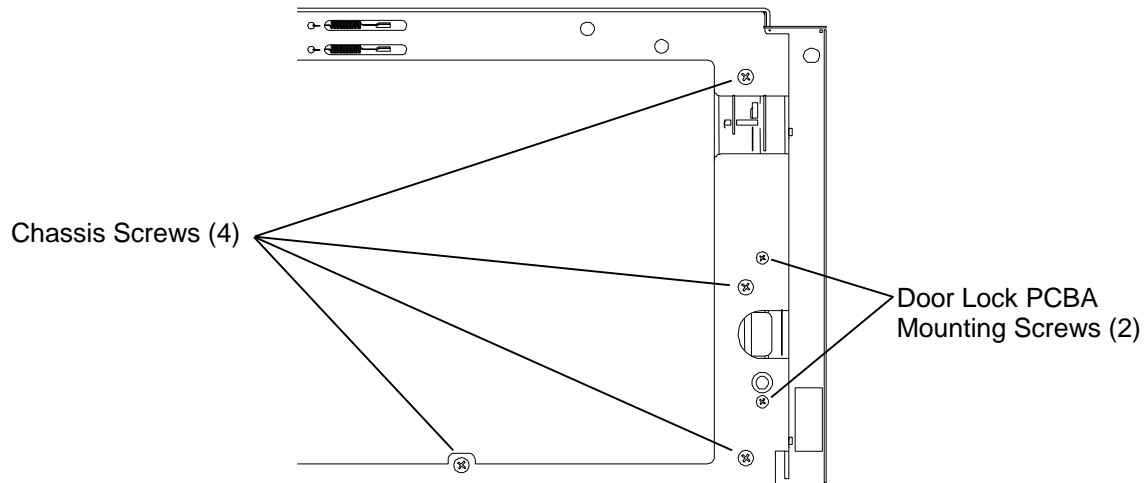

Figure 7-33 Door Lock PCBA and Chassis Screws
4. Using a No. 1 Phillips screwdriver, remove the two Door Lock PCBA mounting screws. See Figure 7-33.
5. Using a No. 2 Phillips screwdriver, remove the four chassis screws to allow for PCBA removal. See Figure 7-33.
2. Insert the PCBA into the RLS with the SENSOR connector towards the top and turn it so that the two mounting screw threaded inserts are aligned with the screw holes in the front of the chassis. See Figure 7-33.
3. Using a No. 1 Phillips screwdriver, reinstall the two door lock PCBA mounting screws that were removed earlier. See Figure 7-33.
5. Using a No. 2 Phillips screwdriver, reinstall the four chassis screws that were removed earlier. See Figure 7-33.